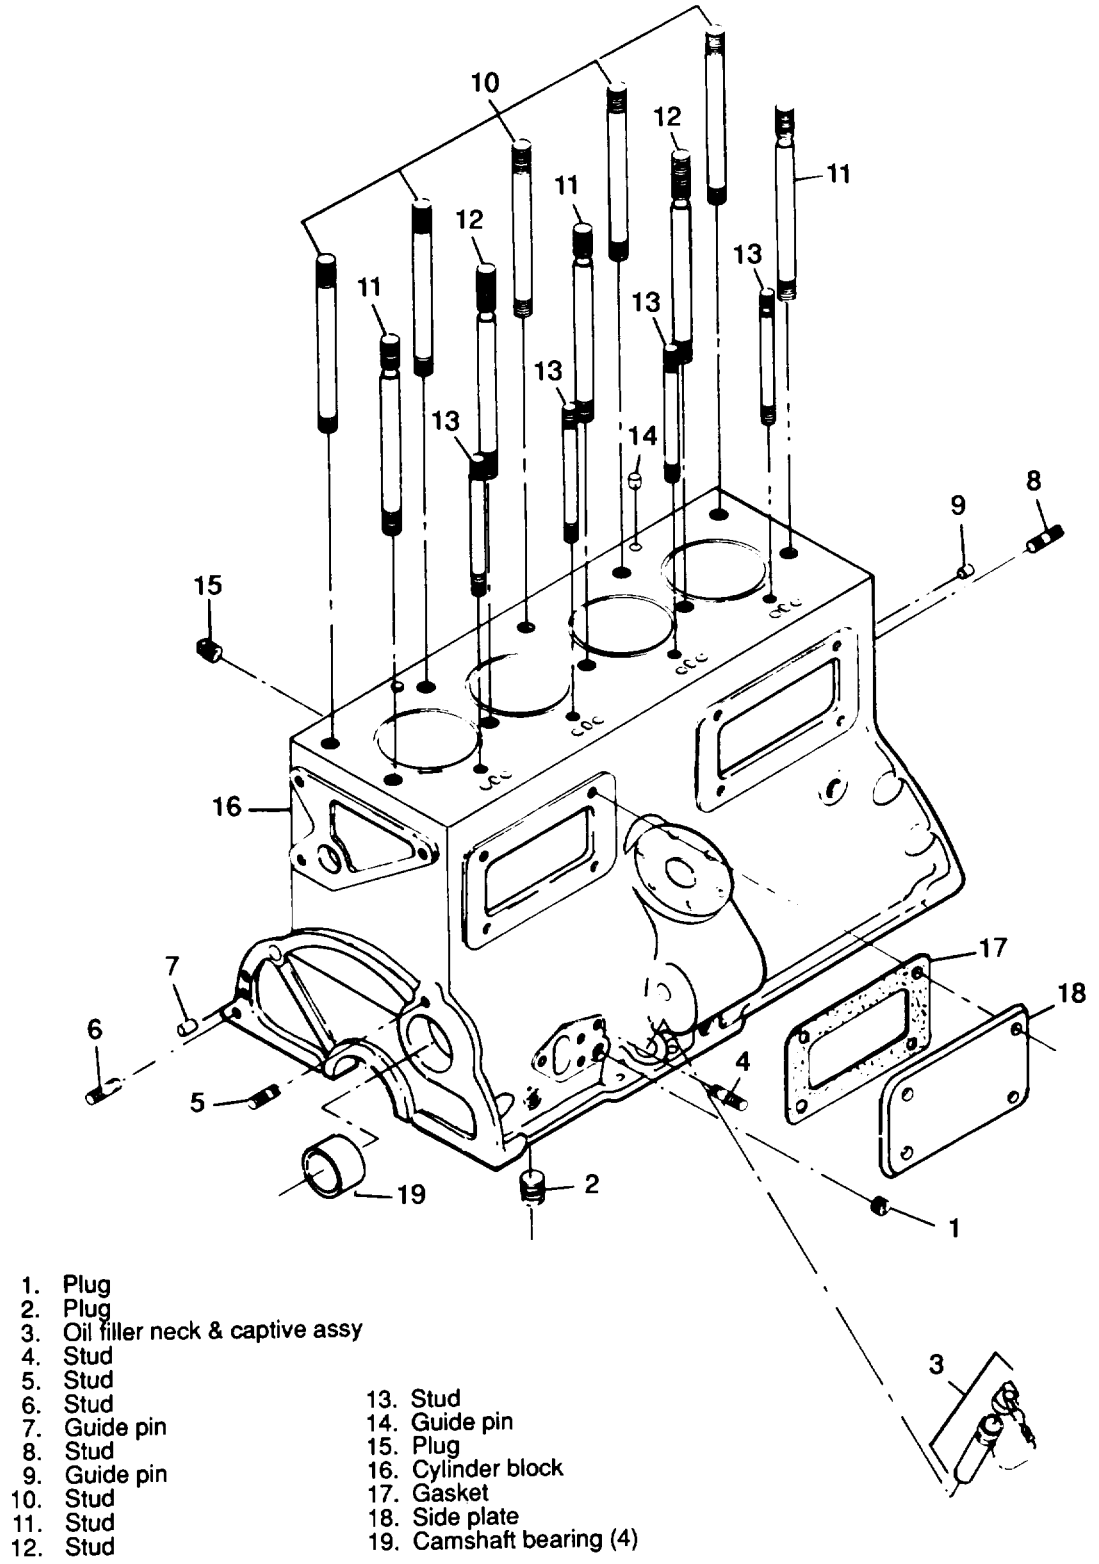

Figure 3-53. Cylinder Block Assembly, Exploded View
- (1) Remove engine assembly (paragraph 2-6).
- (2) Remove timing gears and cover (paragraph 3-51).
- (3) Remove flywheel and flywheel housing (paragraph 3-50).
- (4) Remove cylinder head and rocker arm assembly (paragraph 3-54).
- (5) Remove camshaft and bearings (paragraph 3-55).
- (6) Remove timing gear housing (paragraph 3-51).
- (7) Remove crankshaft, connecting rods, and pistons (paragraph 3-56).
- (8) Remove plugs (1 and 2, figure 3-53).
- (9) Do not remove oil filler neck and captive cap assembly (3) or stud (4) unless inspection reveals damage.
- (10) Do not remove studs (5 and 6) or guide pin (7) unless inspection reveals damage.
- (11) Do not remove studs (8) and guide pin (9) unless inspection reveals damage.
- (12) Do not remove studs (10, 11, 12 and 13) or guide pin (14) unless inspection reveals damage.
(13) Do not remove plug (15) from cylinder block (16) unless replacement is necessary.
- (1) Prior to installation, mask all openings. Treat and paint.
- (2) If removed, position cylinder block (16), and install plug (15).
- (3) If removed, install guide pin (14), and studs (13, 12,11, 10).
- (4) If removed, install guide pin (9) and studs(8).
- (5) If removed, install guide pin (7) and studs (6 and 5).
- (6) If removed, install stud (4) and oil filler neck and cap assembly (3).
- (7) Install plugs (2 and 1, figure 3-53).
- (8) Install crankshaft, connecting rods and pistons (paragraph 3-56).
- (9) Install timing gear housing (paragraph 3-51).
- (10) Install camshaft and bearings (paragraph 3-55).
- (11) Install cylinder head and rocker arm assembly (paragraph 3-54).
- (12) Install flywheel and flywheel housing (paragraph 3-50).
- (13) Install timing gears and cover (paragraph 3-51).
- (14) Install engine assembly (paragraph 2-6).